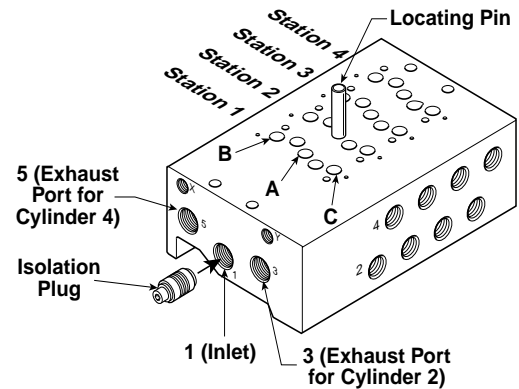
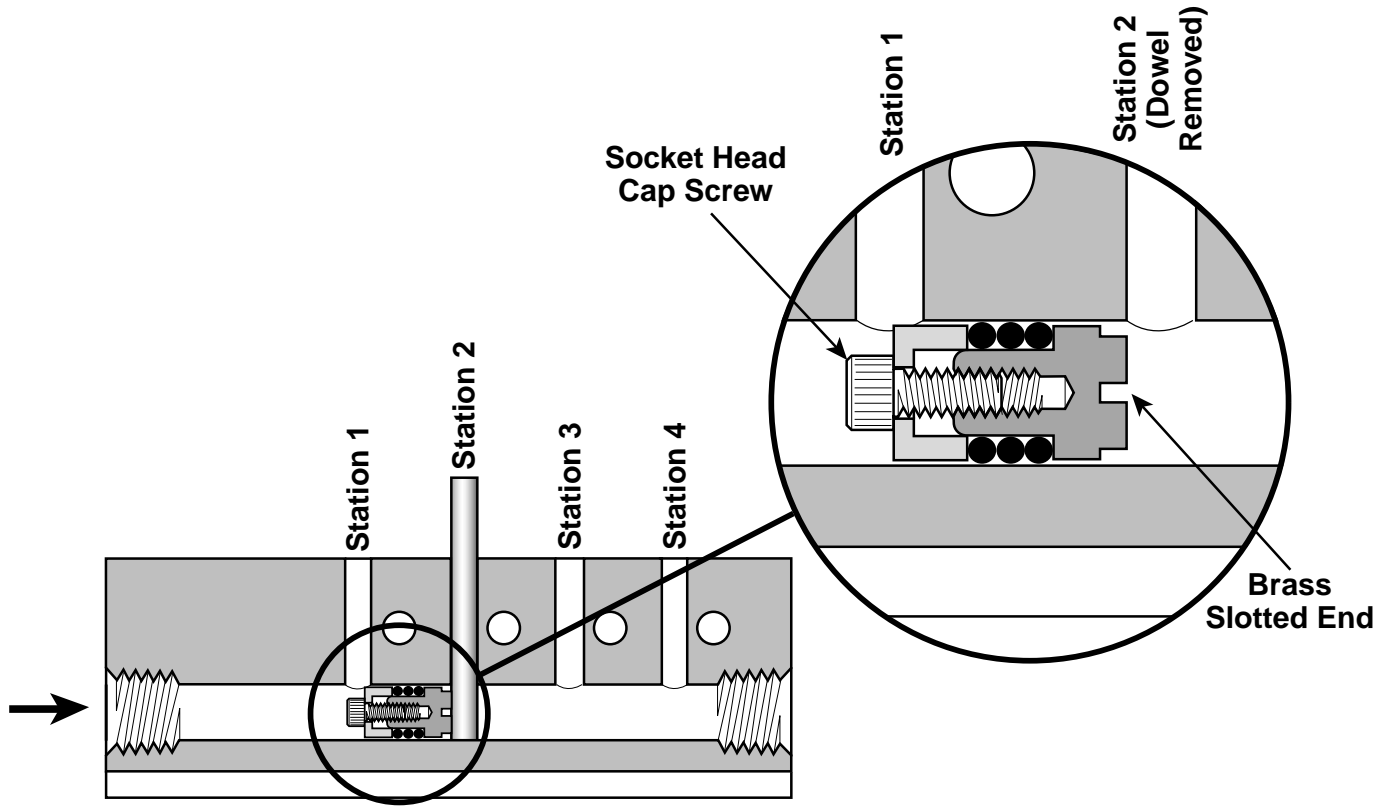
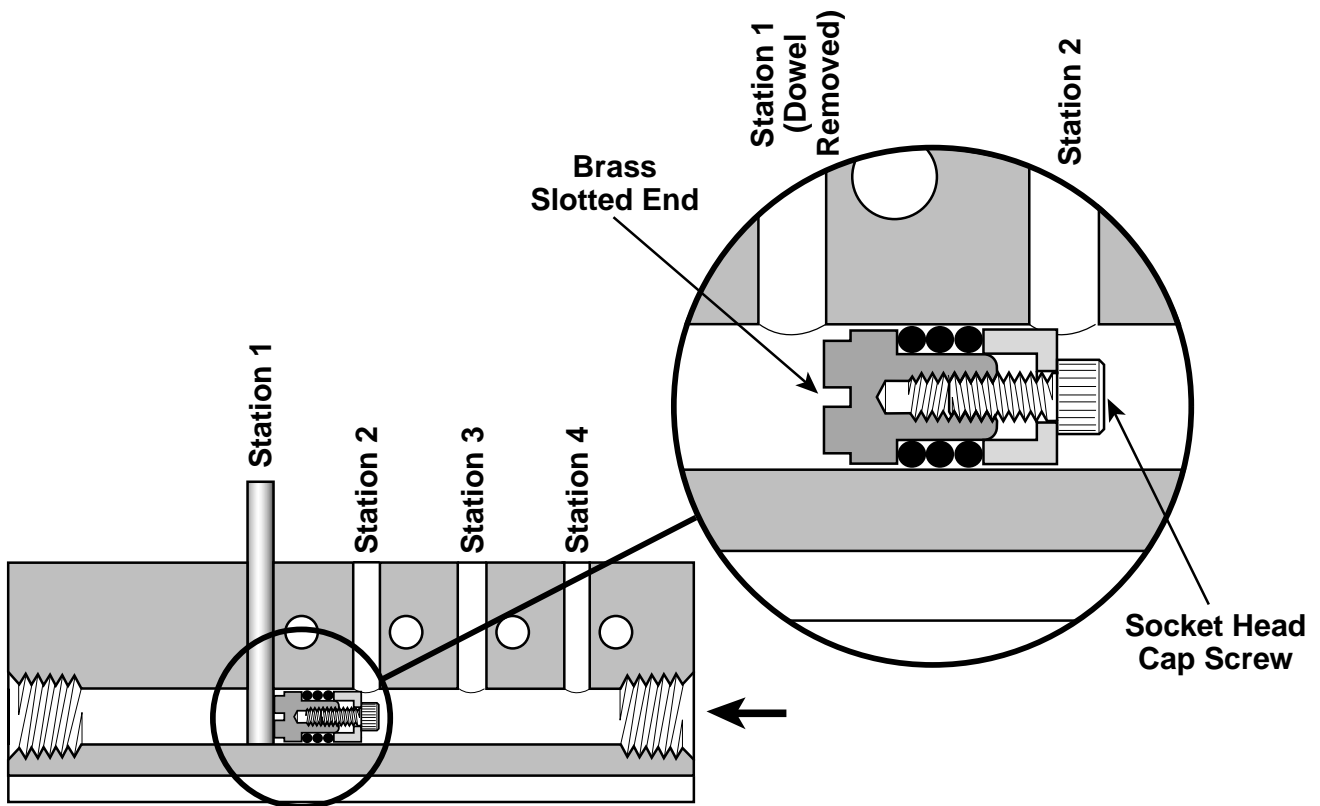

Figure 1
Figure 2
Figure 3
1. Before inserting the isolation plug into the manifold (Figure 1), determine the best location and orientation for the isolator plug. The location and orientation of the plug may be affected by the length of the manifold and the length of available tools. Figure 2 and Figure 3 both show isolation between station 1 and 2. Note that there is a choice of orientation for the isolation plug.